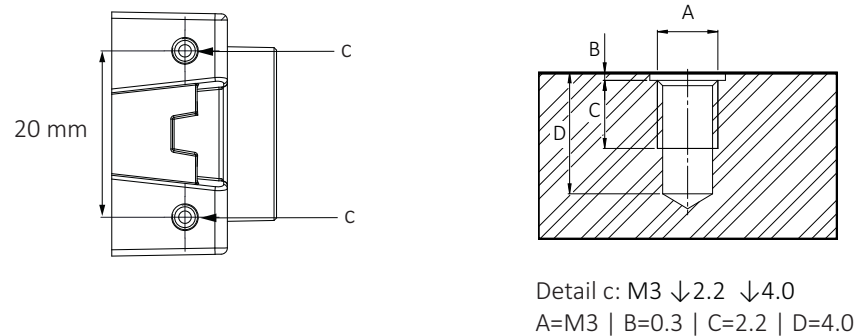

Figure 85: Top and bottom and mounting threads (c)
1. Mount the camera to the base using suitable M3 screws at 0.51 Nm maximum torque for a thread engagement (C) of 2.2 mm between screws and mounting threads, see Figure 85. For technical drawings, see Standard Alvium: Dimensions and mass on page 170.